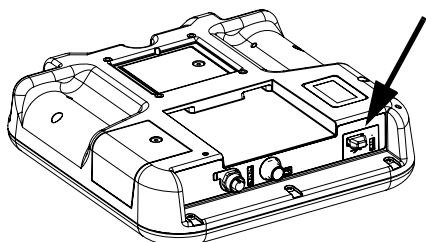

Fig. 39: ADM USB Port
1. Insert USB flash drive into USB port (BL). See FIG. 39 on page 59.
3. Remove USB flash drive from USB port (BL).